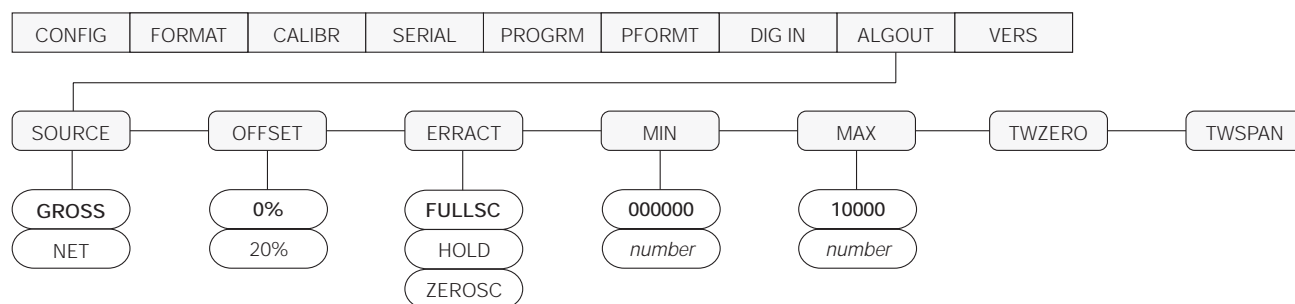

Figure 3. Analog Output Menu
- Enter setup mode and go to the ALGOUT menu (see Figure 3).